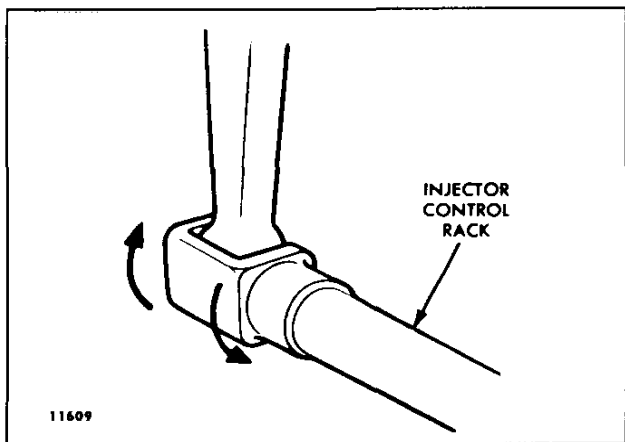

Fig. 4 - Checking Rotating Movement of Injector Control Rack
5. To be sure of proper rack adjustment, hold the stop lever in the *run* position and press down on the injector rack with a screwdriver or finger tip and note the "rotating" movement of the injector control rack (Fig. 4).